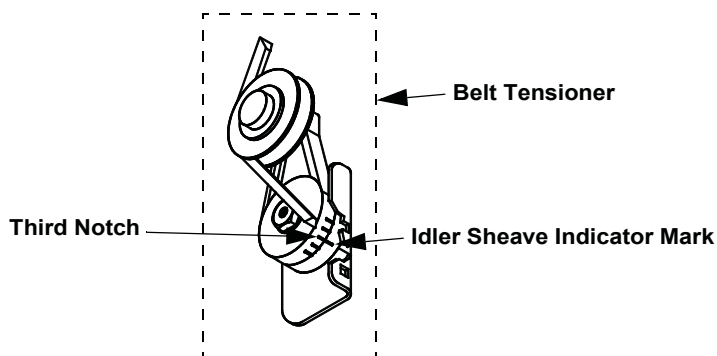

Figure 29. Idler Sheave Indicator
- Check Belt Tension. The Belt should be tensioned just tight enough to minimize Belt slippage. Over tensioning the belt will cause premature Belt and Bearing wear. With a new Belt the Idler Sheave indicator mark should line up with the third notch in the Tensioner Housing (See Figure 29).